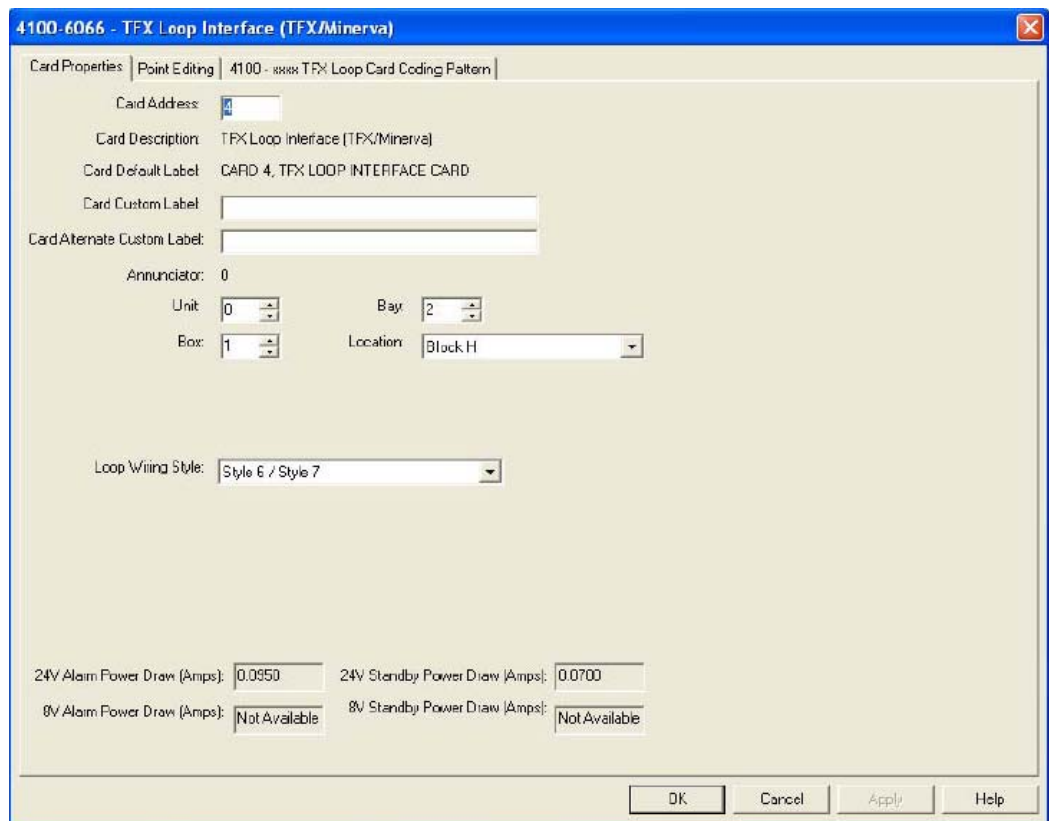

Figure 6-44. TFX Loop Card Properties Dialog Tab
5. Double click on the interface card's icon. The Properties sheet for the card appears as shown in Figure 6-44.